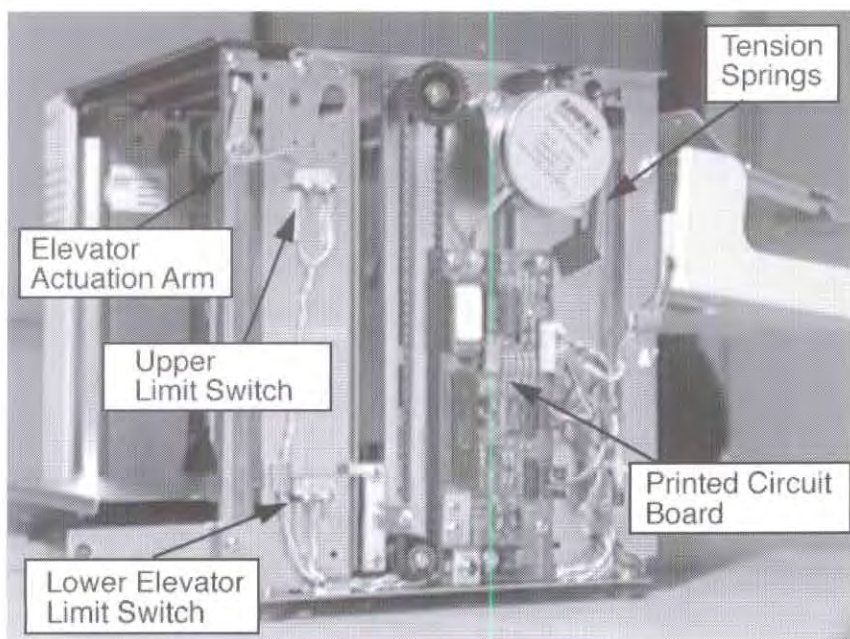

Figure 3-2. Right Side View
4. Locate microswitch attached to grey and white wires at the lower left of the frame. (Refer to Figure 3-2.) 5. Inspect switch for any deformity or visible damage to the body or tongue. 6. Re-apply power to the unit and allow the elevator to descend. 7. While descending, verify that when the tongue of the switch is depressed, all motion is halted. This will prove the proper operation of the switch.